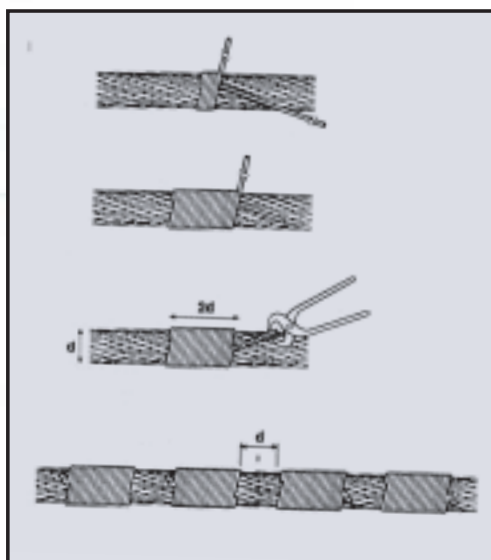

Fig 10
- 3.12** Take particular care and note the manufacturer's instructions when the rope is required to be cut. Apply secure servings on both sides of the cut mark. (See Fig. 10 for typical method of applying a serving to a multi-layer rope.)
A minimum of two servings either side of the cut (see fig 10) is normally sufficient for ropes up to 100mm diameter and for larger ropes a minimum of four servings either side of the cut should be applied. It is essential that the correct size serving wire or strand (see fig 10a) is used and that adequate tension is applied during the serving process to ensure the integrity of the rope is maintained. It is particularly important to maintain the integrity of non-preformed ropes, multistrand rotational resistant ropes and parallel closed ropes as failure to do so could affect the ropes breaking strength and performance in service. During the serving procedure, serving mallets and hand operated serving machines can be used to generate tight servings.